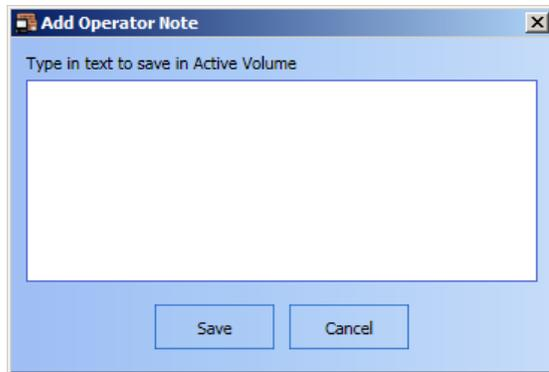

Figure 5-5 Add Operator Note Dialog
3. An **Add Operator Note** dialog box appears, as shown in Figure 5-5.